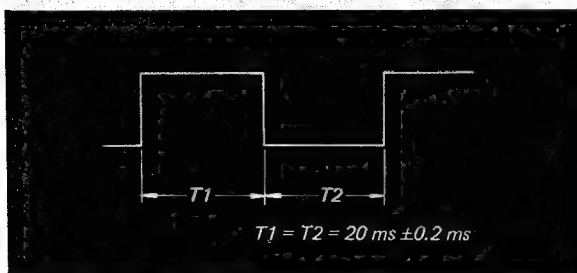

Fig. 7-5.
2. Adjust R437 so that T1 and T2 are 20 msec ± 0.2 msec (50% duty cycle) as shown in Fig. 7-5.